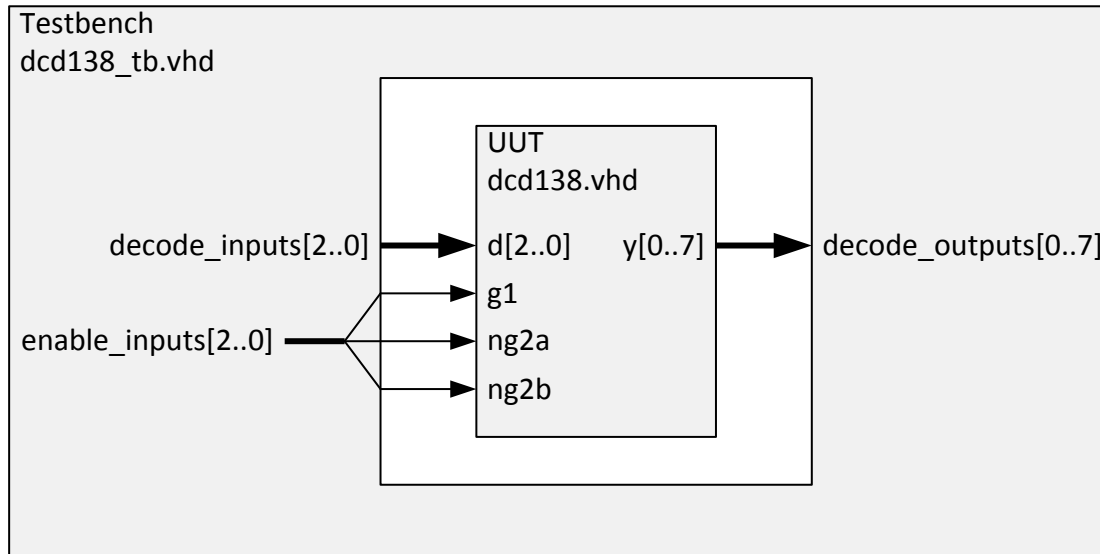

Figure 1 Structure of a VHDL Testbench for a 74138 Decoder
Figure 1 shows how a testbench is structurally connected to a VHDL design entity. The 74138-equivalent decoder (**dcd138.vhd**) is referred to as the Unit Under Test (UUT). The UUT is instantiated as a component in the testbench file (**dcd138\_tb.vhd**). The testbench file itself has no input or output ports that connect to physical hardware in the outside world; the only connections the testbench has are an internal set of signals that connect to the ports of the UUT. Therefore its entity declaration contains no ports, only the testbench file name.
- Lines 32 – 36:** Instantiate the unit under test by mapping the UUT component ports to the testbench signals declared in lines 27 – 29. The result is the connection of the UUT to the testbench shown in Figure 1.